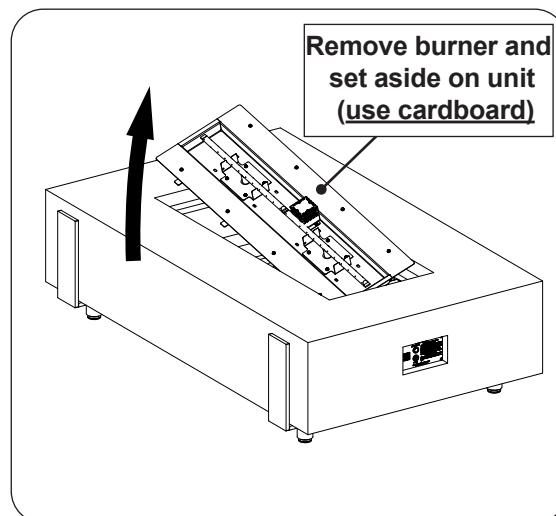

Fig. 26-3 Remove burner assembly
7. Carefully remove the burner and set it off to the side (see Fig. 26-3).